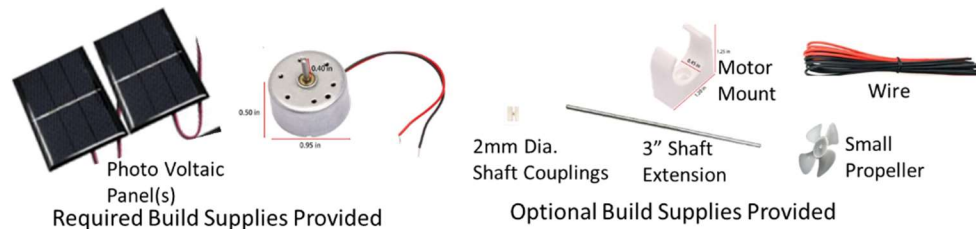

Figure 1 Supplied items, PV Panels, DC motor, shaft, coupling, polymer propeller, motor mount, metal drive shaft, and wire
A. One kit provided per entry (see Figure 1)